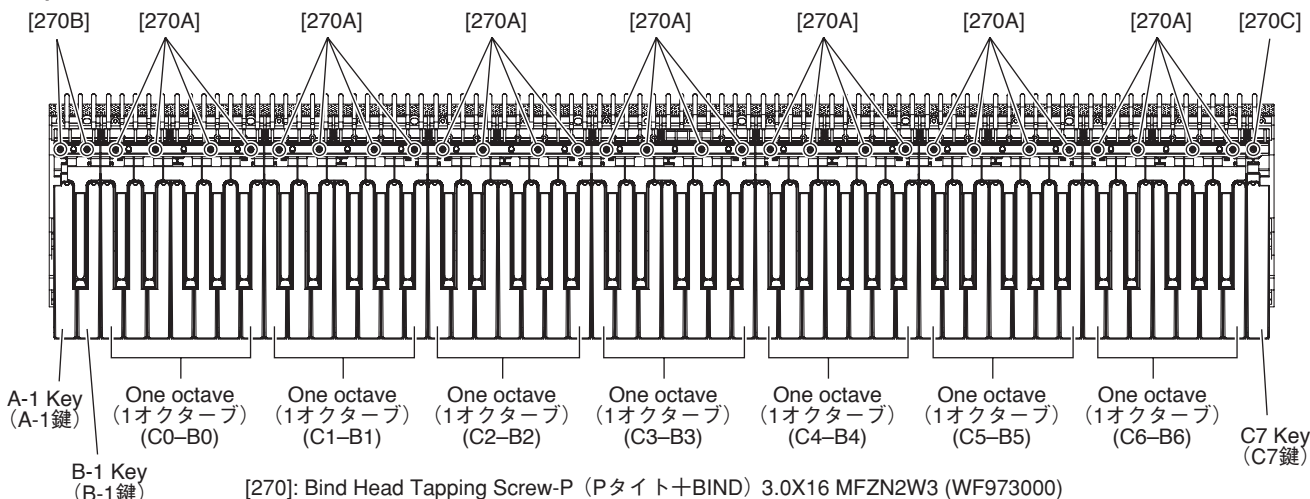
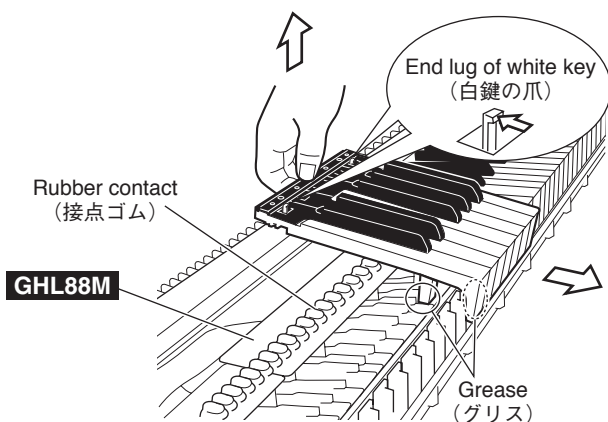

Fig. 12 (図 12)
Fig. 13 (図 13)
Remove the four (4) screws marked [270A] fixing the black and white key assembly for one octave (C-B). To remove the back of the black and white key assembly of each octave, while pushing the end lug of white keys rearward and lifting the back of keys, slide the black and white key assembly towards you. (Fig.12, Fig.13)
12-2 When removing white keys numbered as A-1 and B-1 key and black key, remove two (2) screws marked [270B] and then lift the back of the keys and slide the black and white keys towards you. (Fig. 12)
12-3 When removing the C7 key, remove a screw marked [270C] and then lift the back of C7 key and slide it towards you. (Fig. 12)
Note: When removing white key assembly and black key assembly, be careful not to allow grease to attach to the circuit board and rubber contacts, etc. (Fig. 13)
各オクターブ (C ~ B) の白鍵Ass'yと黒鍵Ass'yを止めている[270A]のネジ4本を外し、白鍵のツメを後方に押しながら1オクターブ分の白鍵Ass'y/黒鍵Ass'yを外します。このとき、白鍵Ass'y/黒鍵Ass'yの後部を持ち上げてから、手前にスライドさせて取り外してください。(図12、図13)
12-2 A-1, B-1鍵は、[270B]のネジ2本を外し、A-1, B-1鍵の後方を持ち上げてから、手前にスライドさせて取り外します。(図12)
12-3 C7鍵は、[270C]のネジ1本を外し、C7鍵の後方を持ち上げてから、手前にスライドさせて取り外します。(図12)
注) 白鍵Ass'y、黒鍵Ass'yの取り外しの際、グリスが基板や接点ゴム等に付かないように注意してください。(図13)